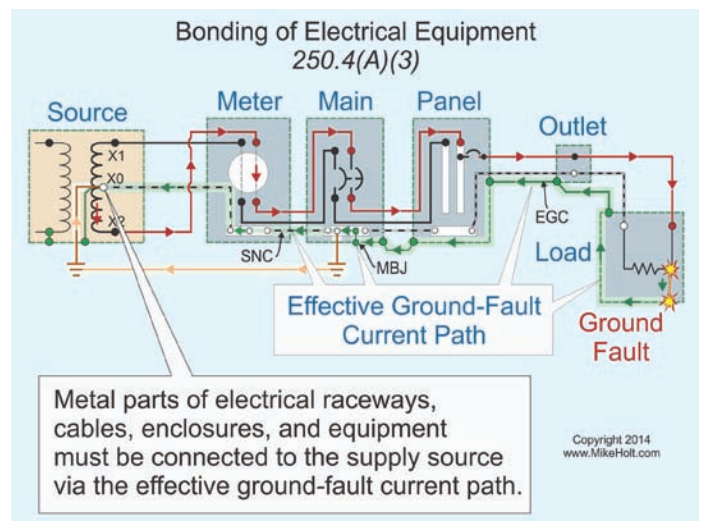

Figure 250-8
**(3) Equipment Bonding.** Metal parts of electrical raceways, cables, enclosures, and equipment must be connected to the supply source via an effective ground-fault current path. Figure 250-8